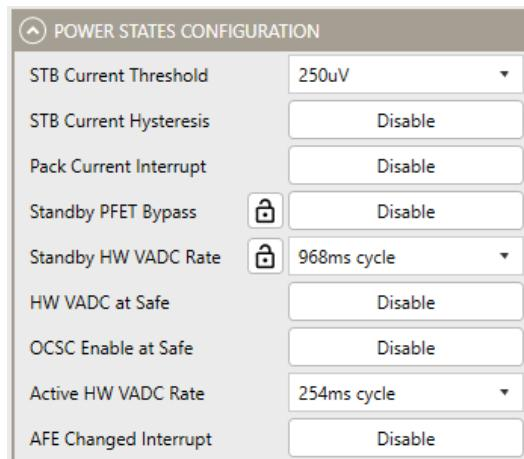

Figure 12: Power Status Configuration
- d. SC Removal Detect Soft Start (SS): Enables the short-circuit detection sequence that occurs before the DSCHG FET turns on.
8. Configure the power status (see Figure 12).